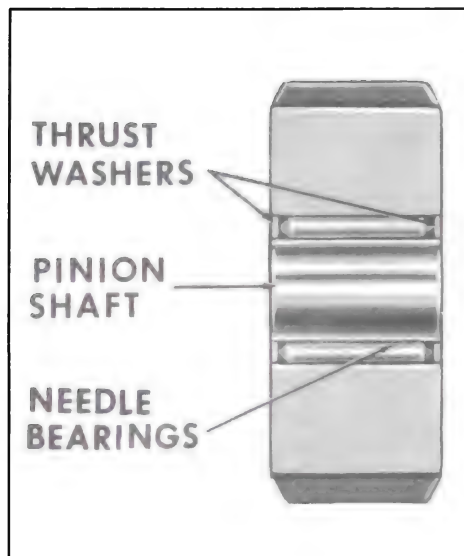

Figure 5-260
5. Remove needle bearings, and thrust washers (2) from the short planet pinion gear. See Figure 5-260.